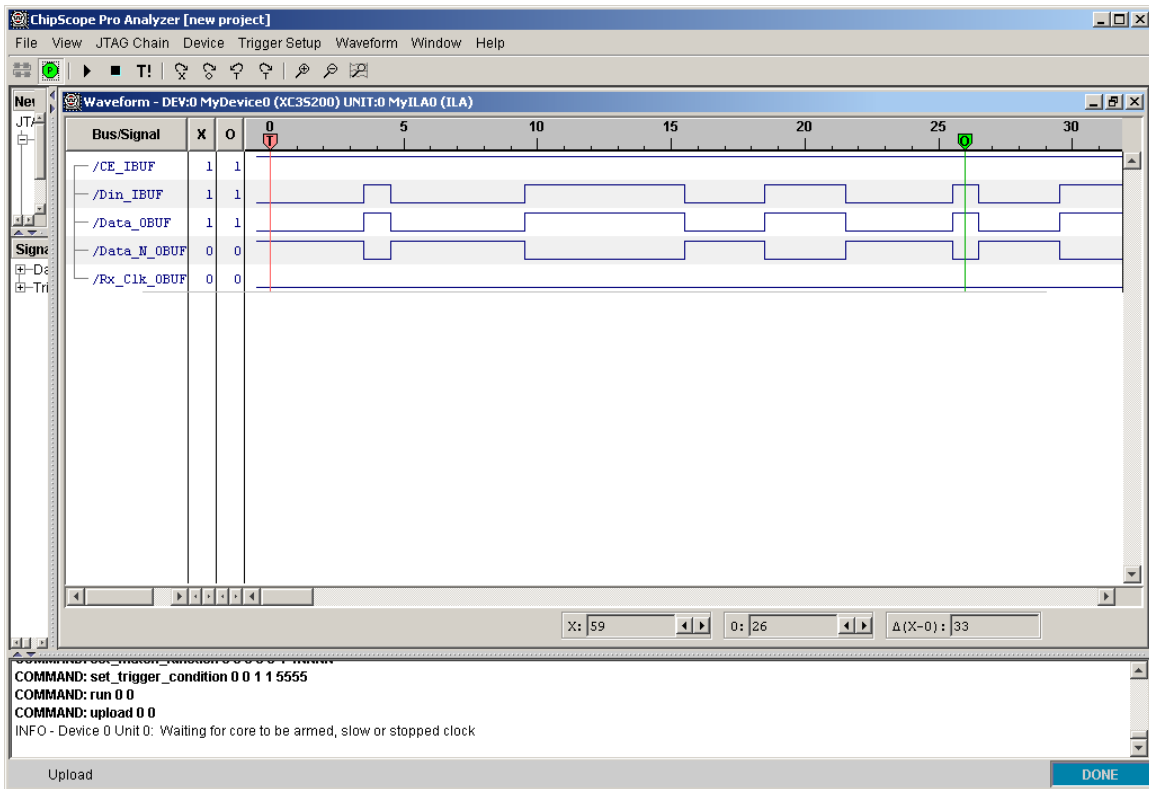

Figure 30
44. Zoom in the signal waveform. Note that during the capture you may lose some of the initial samples. You should be able to see signals similar to Figure 30.